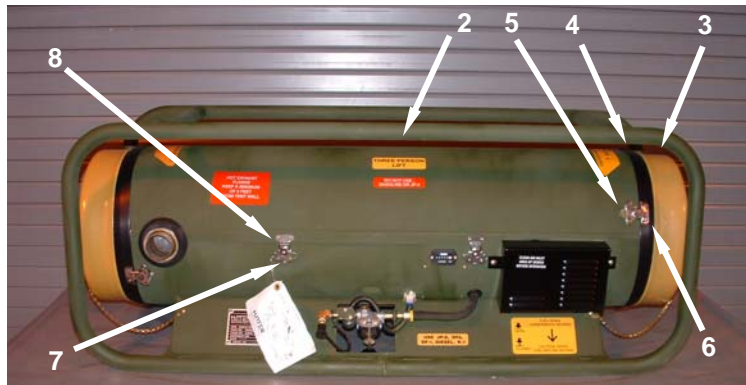

Figure 7. Replace the Burner Assembly Wick.
1. Disconnect battery pack connector (**Figure 7, Item 1**) from lower housing assembly.
2. Remove the upper housing assembly (**Figure 7, Item 2**) by first removing the two dust covers (**Figure 7, Item 3**) at the inlet and outlet ends of the heater.
3. Remove the two duct adapters (**Figure 7, Item 4**) at the inlet and outlet end of the heater by releasing the two fastener housings (**Figure 7, Item 5**) from the fastener keepers (**Figure 7, Item 6**).
4. Remove the upper housing assembly (**Figure 7, Item 2**) by releasing the remaining fastener housings (**Figure 7, Item 7**) from their corresponding fastener keepers (**Figure 7, Item 8**). Lift and remove the upper housing assembly (**Figure 7, Item 2**). Set the upper housing assembly aside.